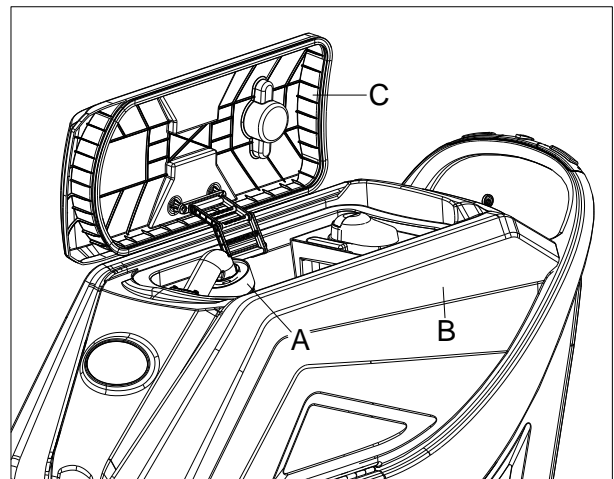
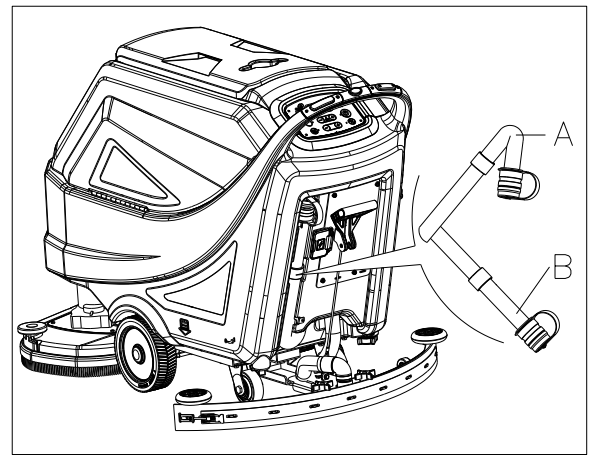

Figure 16
Figure 17
An automatic float shut-off system (A, Figure 16) blocks the vacuum system when the recovery water tank (B) is full. The vacuum system deactivation is signaled by a sudden increase in the vacuum system motor noise frequency, also the floor has not dried.
If the vacuum system turns off accidentally (for example, when the float is activated because of a sudden machine movement), to resume the operation: turn off the vacuum system by pressing the switch (50, Figure 3), then open the cover (C, Figure 16) and check that the float inside the grid (A) has gone down to the water level. Then close the cover (C) and turn on the vacuum system by pressing the switch (50, Figure 3).
When the recovery water tank (B, Figure 16) is full, empty it according to the following procedure.
5. Empty the recovery water tank with the hose (A, Figure 17). Then, rinse the tank (B, Figure 16) with clean water.
When draining the wastewater, the vacuum tube for waste must be folded (A, Figure 17) and lowered to a lower position (B, Figure 17), and then open the lid of the vacuum tube for waste to drain the water. Do not make the outlet of the vacuum tube for waste face upward to drain the water vertically. This is to avoid wastewater spilling onto the operator.